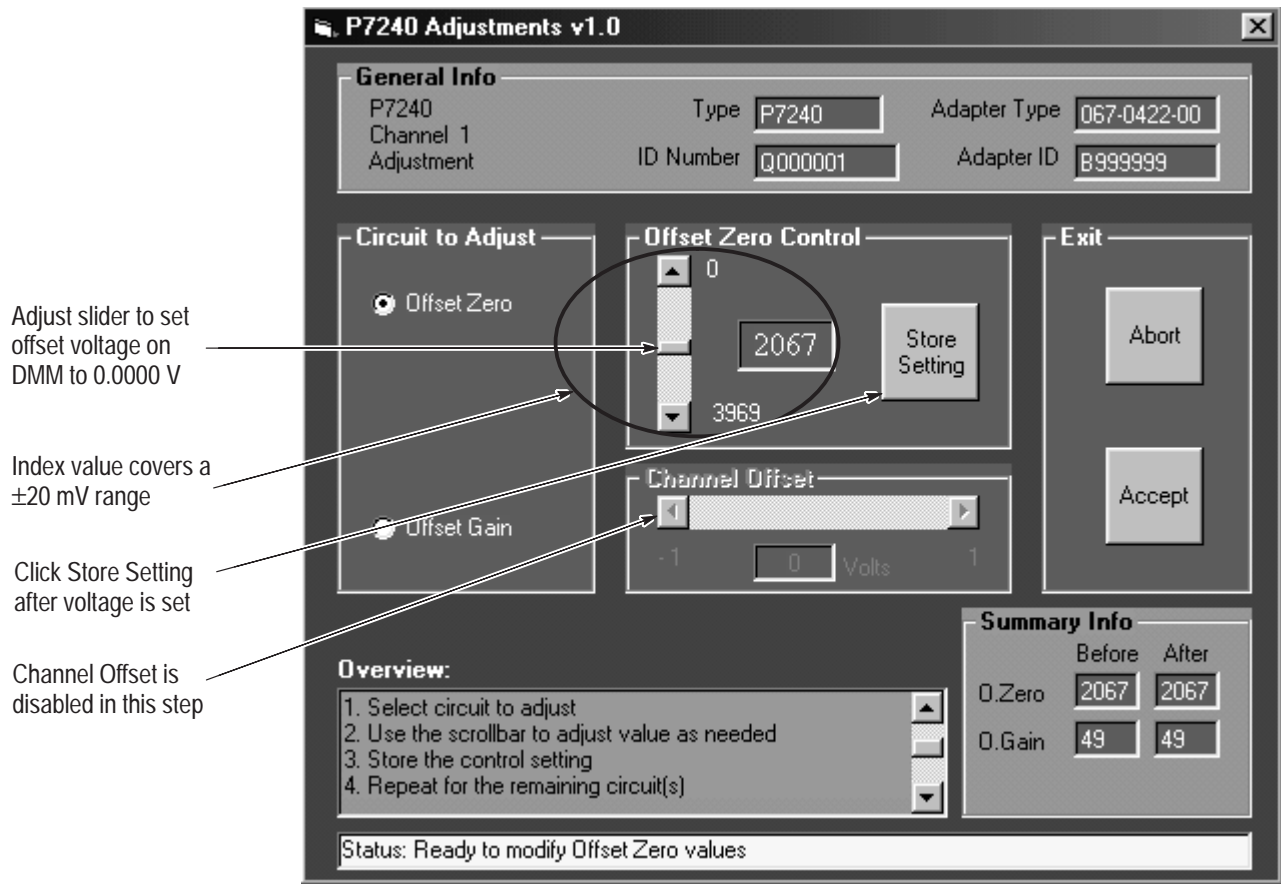

Figure 11: Offset Zero window
3. The P7240 Probe Adjustments Dialog Box appears. See Figure 11 on page 18.
3. Click Offset Zero in the application window. See Figure 11 on page 18.